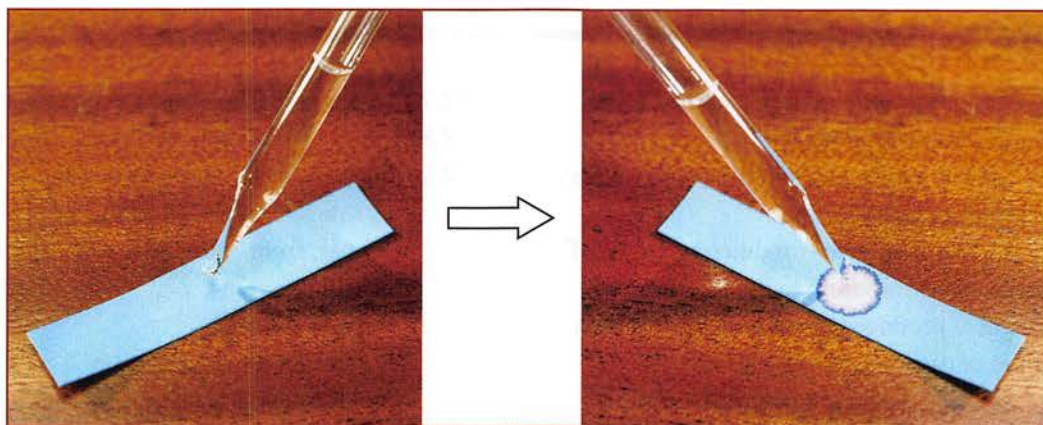

Figure 12.9 The test for the presence of water using cobalt chloride paper. The paper turns from blue to pink.
turn anhydrous copper(II) sulfate from white to blue, and anhydrous cobalt(II) chloride from blue to pink (Figure 12.9). Cobalt chloride paper contains blue anhydrous cobalt chloride. It turns pink if water is present. To decide whether a liquid is **pure** water, you would need to test to show that its boiling point is exactly 100 °C.